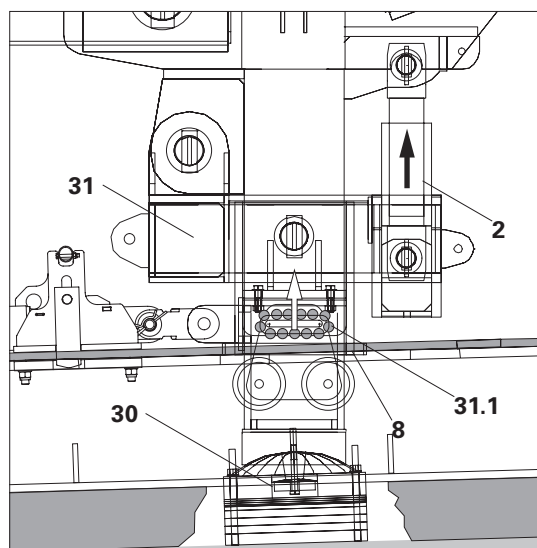

Fig. B4.08
- The front carriage (31) moves upwards through further retraction until the roller bearing (31.1) is lifted away from the rail (8). (Fig. B4.08)